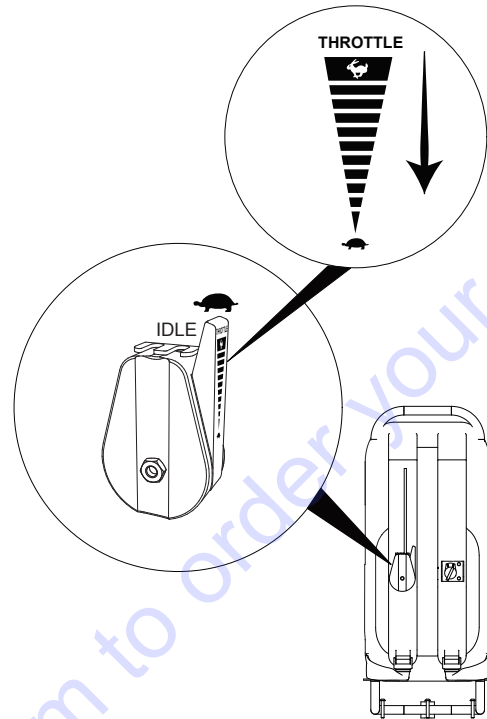

Figure 13. Throttle Lever (Idle/Turtle Position)
- Place the throttle lever (Figure 13) in the **UP** position (**TURTLE**) to start the engine in **IDLE** mode.